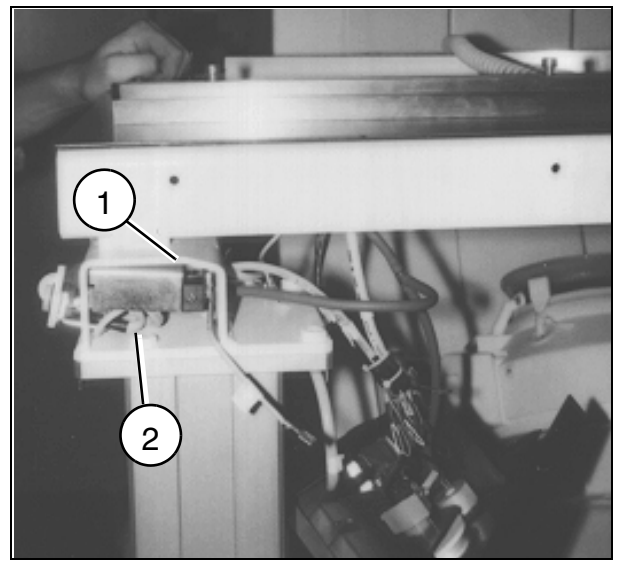

Fig. 4
- Guide the assembly from the front into the table opening and secure it with both Allen screws from the left side (1/Fig. 4).
When installing the board, make sure that the air connection is not damaged and that the hose is not kinked. (We recommend tilting the assembly so that the mounting screw does not damage the air connection.) (2/Fig.4)